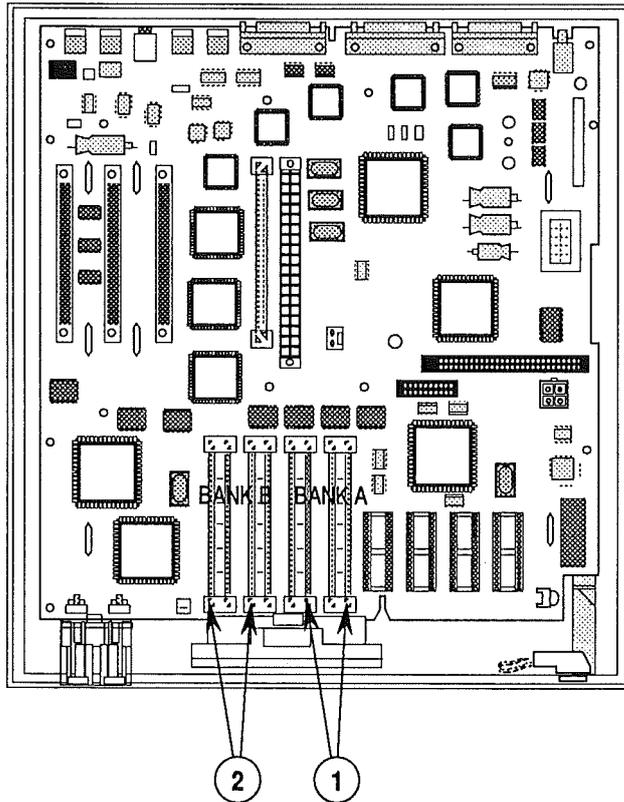

FIGURE 1
3. Install the four known-good SIMMs in Bank A (Figure 1, #1).
1. Locate Bank A on the logic board and install three known-good SIMMs (Figure 1, #1).
4. Return to the beginning of the flowchart and perform the same procedure for Bank B (Figure 1, #2).